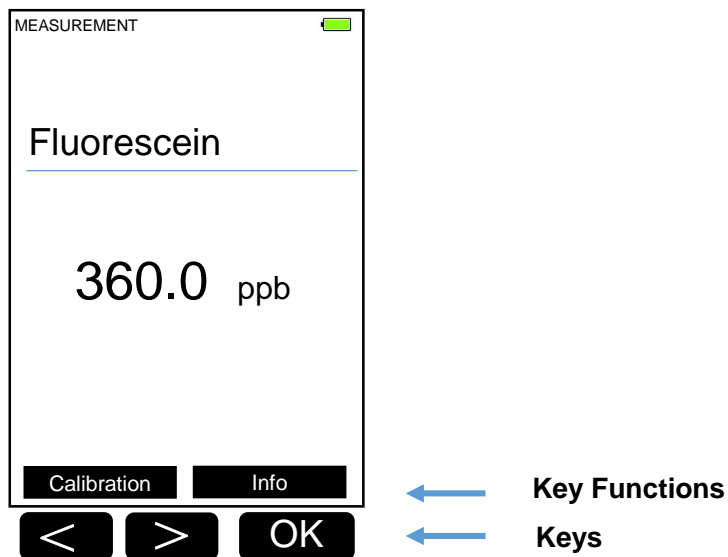
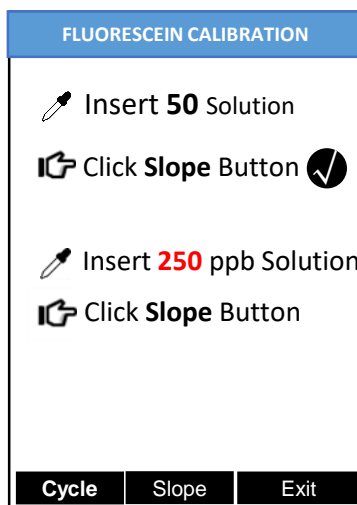
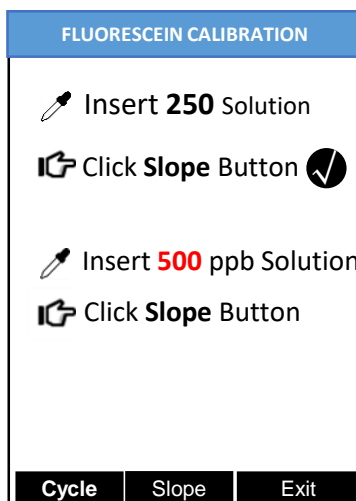
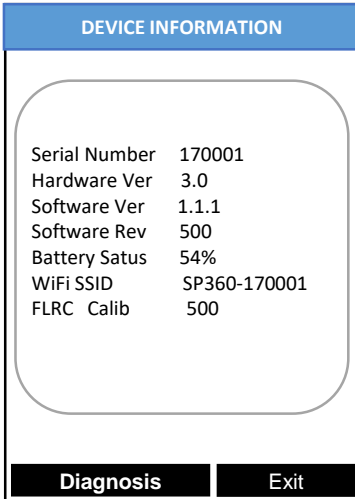

Figure 3 Keys and the associated functions in the Measurement Mode
Figure 7
Figure 9
Figure 11
The Pyxis SP-360 has three keys as shown in Figure 3. The left (<), right (>) and OK keys are used to launch an action indicated on the screen right above the keys. The action associated with each key could be different in different operation modes.
When turned on, SP-360 will be in the measurement mode as shown in figure 3. The water sample can be transferred to the measurement cell with using a pipette. SP-360 can directly take a water sample from a faucet or sample valve port. The light shield needs to be in the closed position in order to measure fluorescein.
- 3) A Screen similar to Figure 3 appears. The unit is actively reading and displaying fluorescein. The value will be very low if DI water is used; fluorescein should be near zero. A low non-zero value (e.g. 0.1 or 0.2, etc.) is not problematic.
- 9) Press the Continue labeled key (>) to continue middle range fluorescein calibration, the screen will also update to show the second Slope step, as in Figure 7. The possible fluorescein selection is displayed in red. The default is 250 ppb. If middle range and high range fluorescein calibration are not required, press the Exit labeled key (OK) any keys to exit. return to the basic read screen. The screen will be similar to Fig. 3. Slight variance in the fluorescein value is not problematic. If Exit is done before the second checkmark appears, the low range calibration will not be completed and must be re-done. After a successful calibration, the unit does not automatically return to the read (Measurement) mode. If Exit is held down too long the unit will power down rather than returning to the read mode.
- 13) Press the Continue labeled key (>) to continue high range fluorescein calibration, the screen will also update to show the third Slope step, as in Figure 9. The possible fluorescein selection is displayed in red. The default is 500 ppb. If high range fluorescein calibration is not required, press the Exit labeled key (OK) any keys to exit return to the basic read screen. The screen will be similar to Fig. 3. Slight variance in the fluorescein value is not problematic. If Exit is done before the third checkmark appears, the middle range calibration will not be completed and must be re-done. After a successful calibration, the unit does not automatically return to the read (Measurement) mode. If Exit is held down too long the unit will power down rather than returning to the read mode.
- 17) Press the Exit labeled key (OK) any keys to exit return to the basic read screen. The screen will be similar to Fig. 3. Slight variance in the fluorescein value is not problematic. If Exit is done before the fourth checkmark appears, the high range calibration will not be completed and must be re-done. After a successful calibration, the unit does not automatically return to the read (Measurement) mode. If Exit is held down too long the unit will power down rather than returning to the read mode.
The device information is shown when the Info labeled OK key in the measurement mode is pressed momentarily (Figure 3). The screen contains the device serial number, software version, and hardware version (Figure 11). The battery life as a percentage and the standard that were used in the last calibration are also shown.